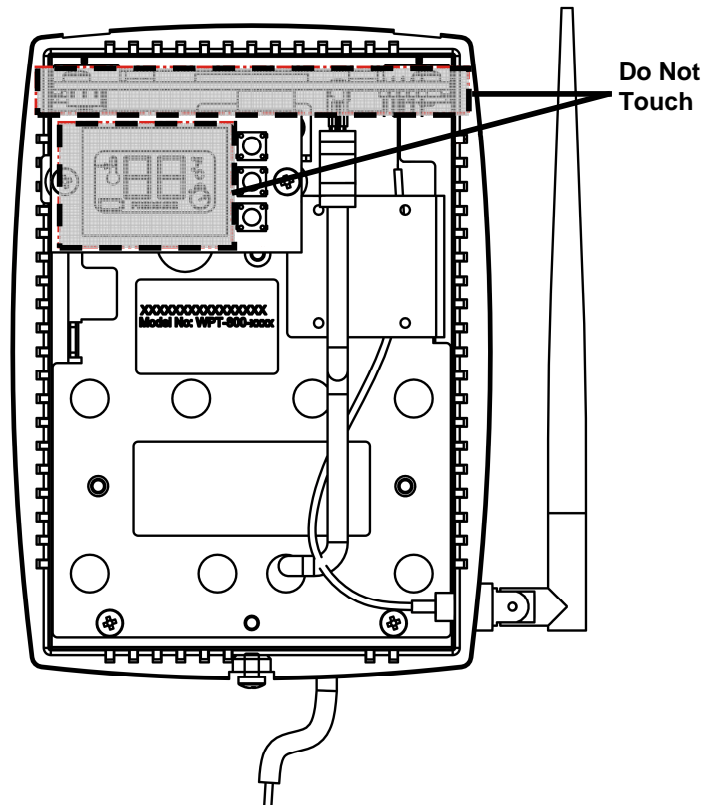

Figure 1. Handling the RWAL
- The RWAL contains ESD sensitive circuit cards and components, shown in Figure 1.